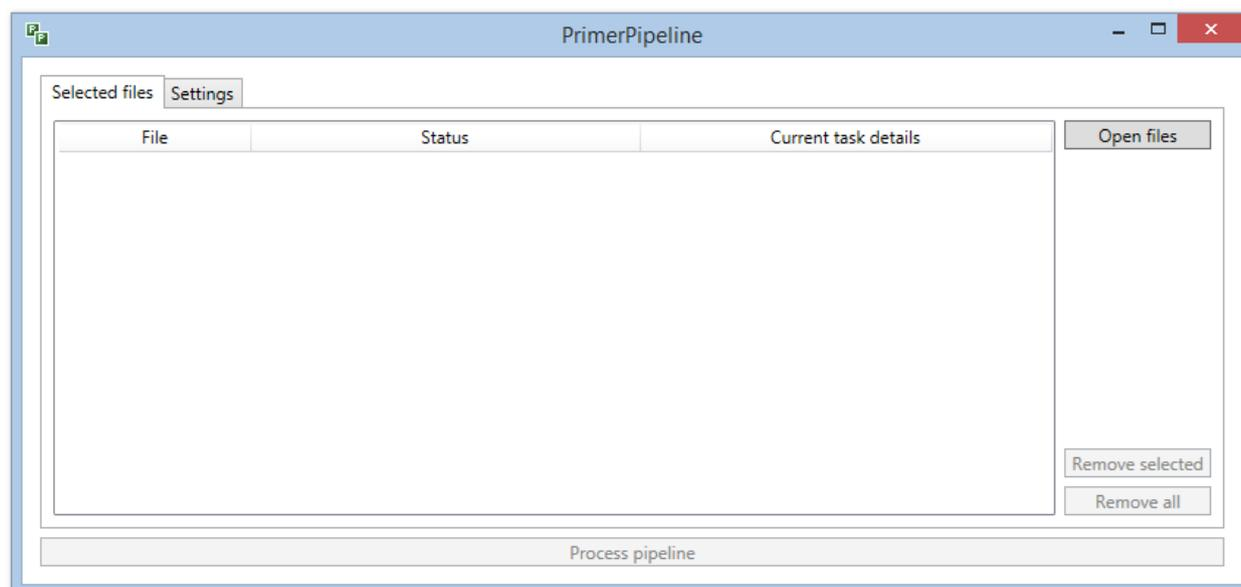

Figure 1. How **PrimerPipeline.exe** looks when opened.
- Open **PrimerPipeline.exe** by double clicking (Figure 1).